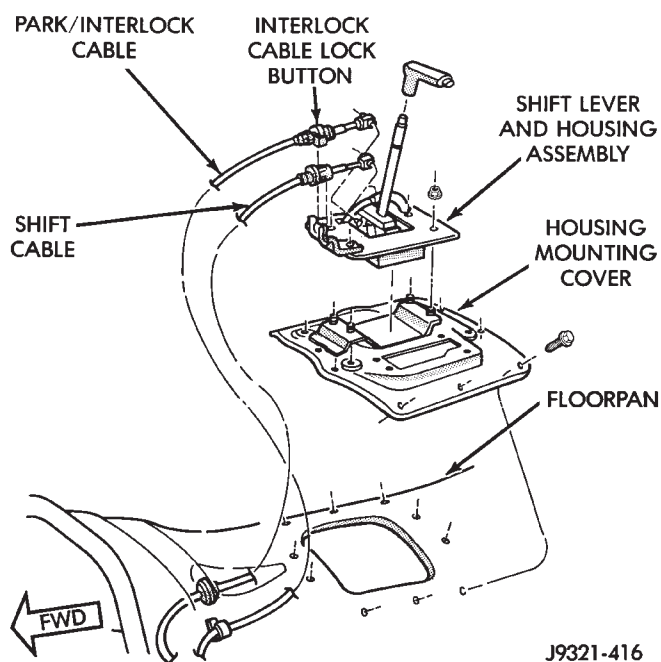

Fig. 2 Shift Cable (XJ)
- (1) Shift transmission into Park.
- (2) Raise vehicle.
- (3) Release cable adjuster clamp to unlock cable (Figs. 2 and 3). Clamp is at transmission end of cable.
- (4) Unsnap cable from transmission cable bracket (Figs. 2 and 3).
- (5) Move transmission shift lever fully rearward to Park detent. Lever is on manual valve shaft at driver side of case.
- (6) Verify positive engagement of park lock by attempting to rotate propeller shaft. Shaft will not rotate when park lock is engaged.
- (7) Snap cable into cable bracket.
- (8) Lock shift cable by pressing cable adjuster clamp down until it snaps into place.
- (9) Check engine starting. Engine should start only in Park and Neutral.
- (10) Lower vehicle.